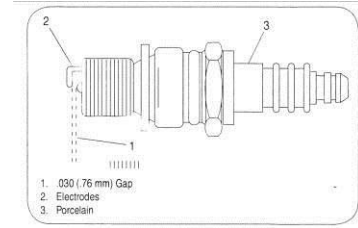

Figure 31
4. Check electrode gap with a feeler gauge and set gap to 0.030 (0.76mm) if necessary. See Figure 31.